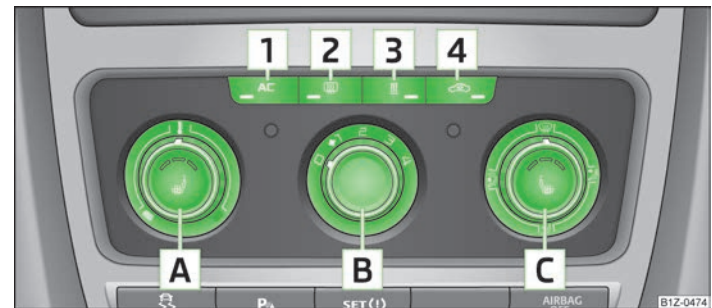

Fig. 89 The air conditioning system: Control elements
The cooling system only operates if the button **AC 1** » Fig. 89 on page 82 is pressed, and the following conditions are met:
- › Turn the control dial **A** » Fig. 89 to the right to increase the temperature.
- › Turn the blower switch **B** » Fig. 89 into one of the positions, 1 to 4, to switch the blower on.
- › Press the button  **4** to close the fresh air supply » Fig. 89.
- › The direction of the inlet air flow is controlled with air distribution regulator **C** » Fig. 89 » page 80.
- › Press the button **AC** **1** » Fig. 89 and the warning light in the button illuminates.
- › Press the button  **2** » Fig. 89. Further information » page 47.
- › Press the button  **3** » Fig. 89 to directly switch on/off the auxiliary heating (auxiliary heating and ventilation). Further information » page 87.
- Controls **A** » Fig. 89 on page 82, **B**, **C** and buttons **1** and **4**.
- Press the button **4** » Fig. 89 on page 82 and the warning light in the button illuminates.
- Press the button **4** » Fig. 89 on page 82 again - the warning light in the button goes out.
Recirculated air mode is switched off automatically if the air distribution control **C** » Fig. 89 on page 82 is turned to position . Recirculated air mode can be switched on again from this setting by repeatedly pressing the button .